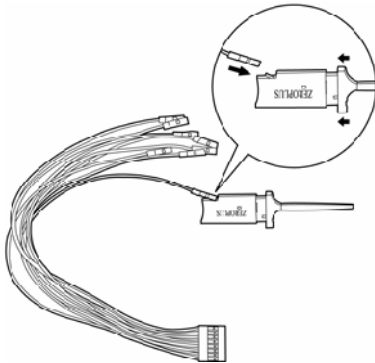

Fig. 2-5
- 6. Plug the thin end into the computer (Fig.2-5).